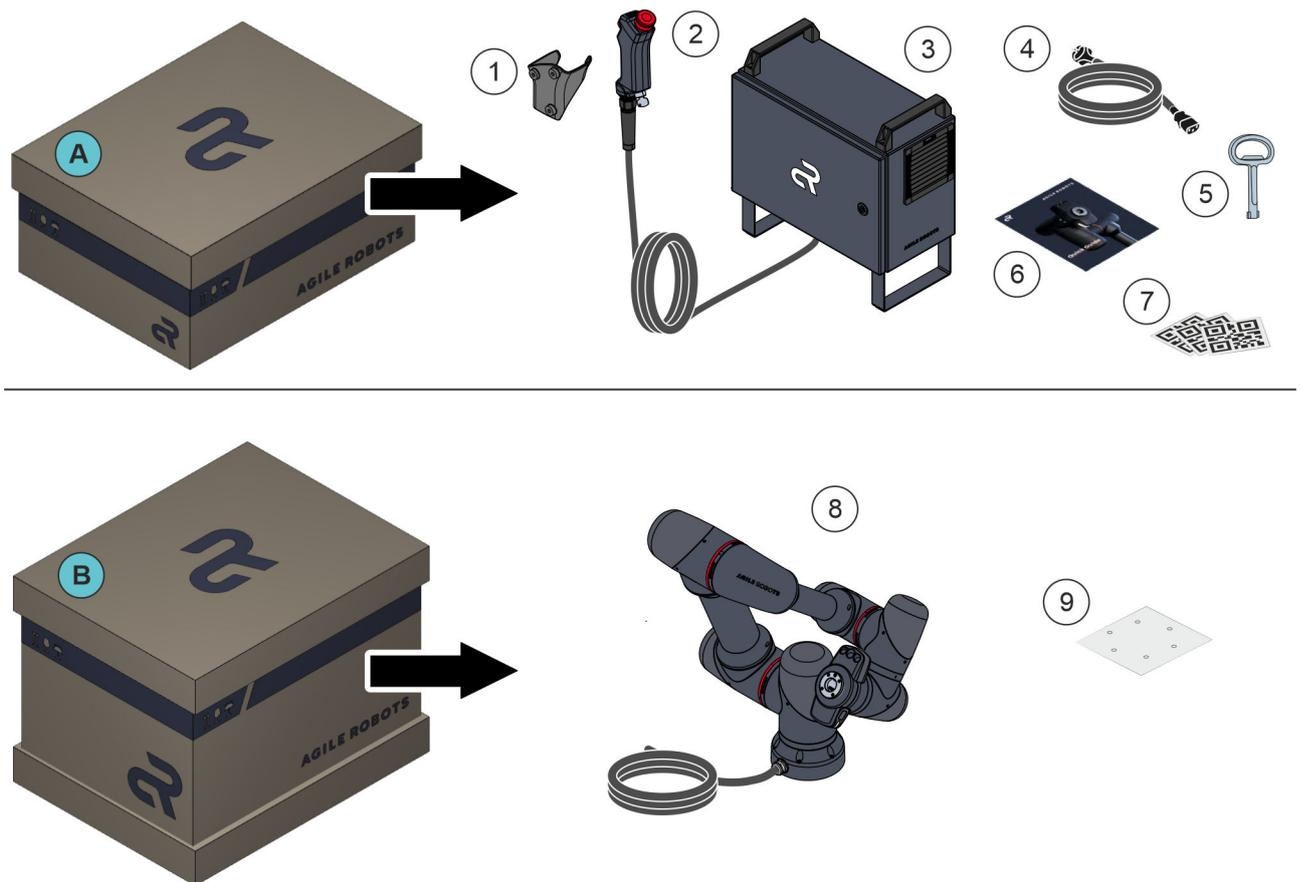

Fig. 40 Delivery condition and scope of delivery
The robot and its components are delivered in two boxes Fig. 40/Ⓐ + Ⓑ on a transport pallet. The two boxes contain the following components:
- Robot controller + accessories Fig. 40/①–⑦
- Robot + accessories Fig. 40/⑧–⑨